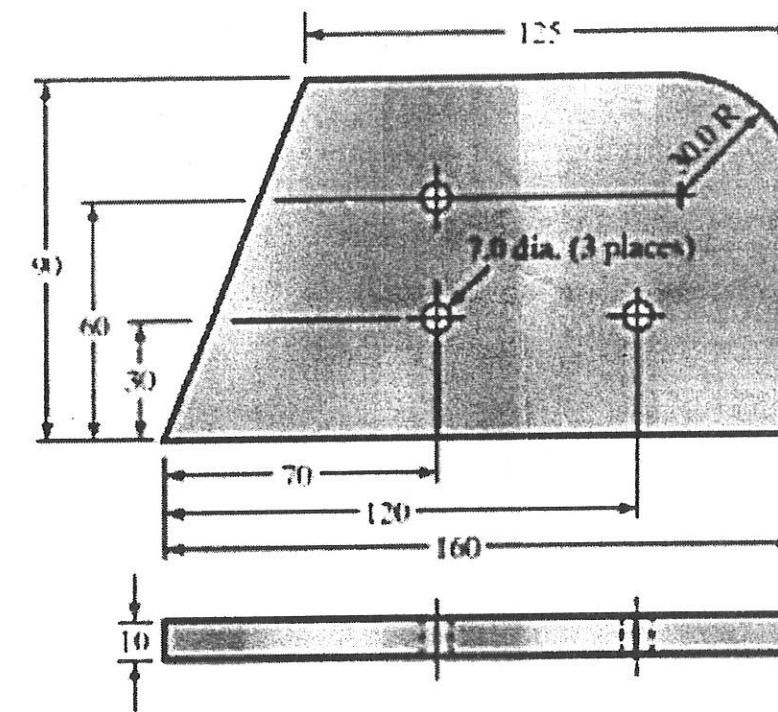

Fig. 2
- (i) STEP (7)
- (ii) PDES (6)
14. (a) For the following component shown in Figure 2. Make a part program for the vertical machining centre. Clearly show the set point and axes on the sketch of the part. Assume the size of the blank is $162 \times 92 \times 10$. All dimensions are in mm.